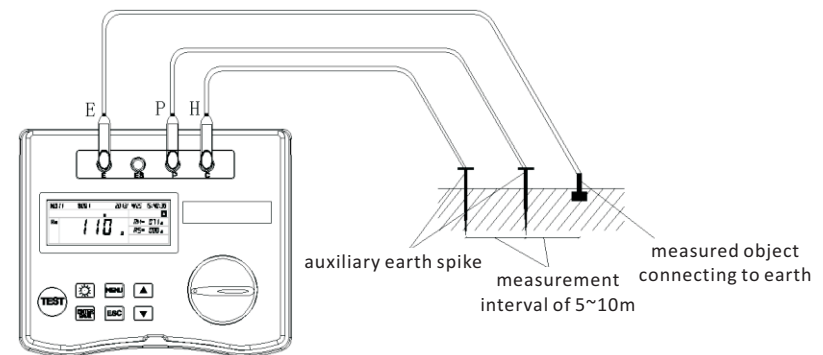

Fig.22
(3) Connection of Auxiliary Earth Spikes and Test Leads
Stick the Auxiliary Earth Spikes S(P) and H(C) into the ground deeply. They should be aligned at an interval of 5-10m from the earthed equipment under test. Connect the green Test Lead to the earthed equipment under test, the yellow Test Lead to the Auxiliary Earth Spike S(P) and the red Test Lead to the Auxiliary Earth Spike H(C) . The black Test Lead connected to the ES Terminal should be connected to the earthed equipment under test.(Fig. 22)